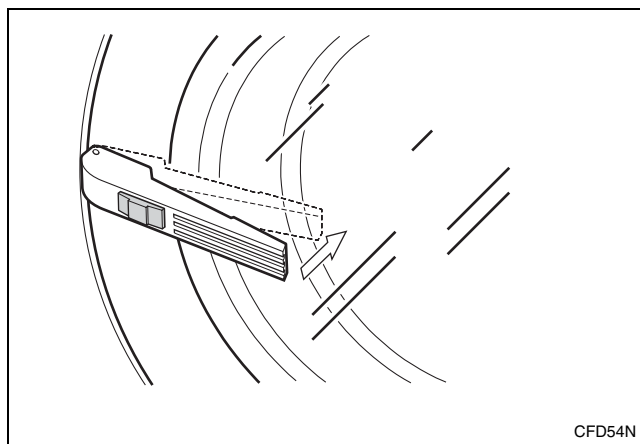

Figure 6
4. Close door by pushing door handle towards machine. Refer to *Figure 6*.